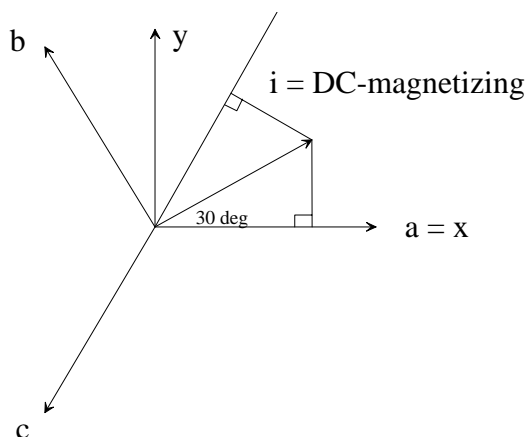

Figure 2: Illustration of DC magnetizing current in the three phases
- currents should look according to Figure 2